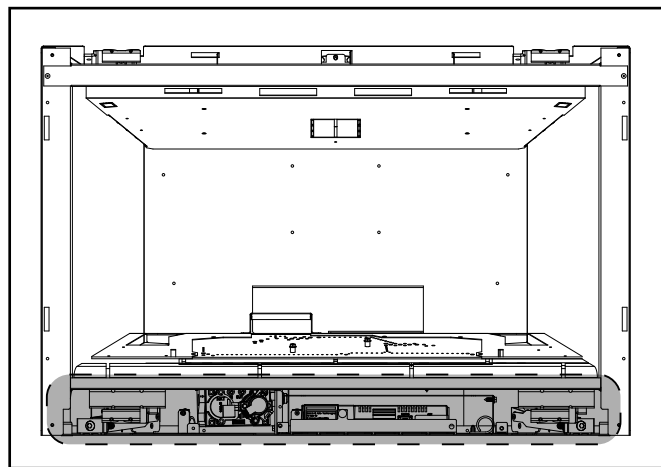

Figure 3.7 Control Cavity
The flame on the PROV-IPI models have a variable burn rate which is controlled by the HI/LO knob on the gas valve. Therefore the flame height is adjustable. The HI/LO knob is shown in Figure 3.7. It is located in the control cavity of the appliance. The HI/LO knob may be adjusted as desired by turning counterclockwise to the LO position and by turning clockwise to the HIGH position.
1. Access the control cavity of the appliance. See Figure 3.7 for location. The decorative barrier front, fixed glass assembly, and glass seal plate will need to be removed.